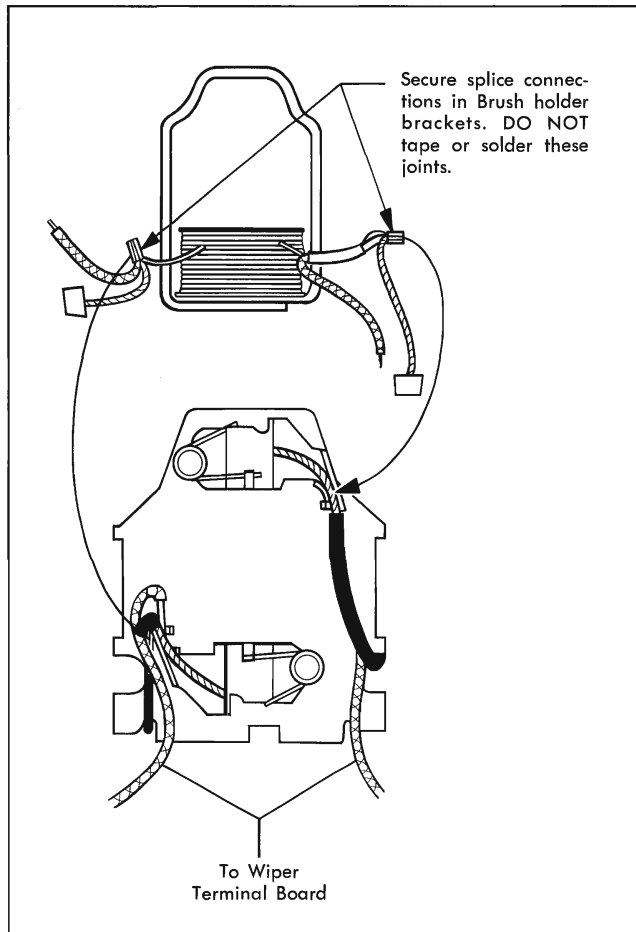

Fig. 11-97 Wiper Internal Wiring
- d. Loose pigtail connections at splice joints (Fig. 11-97)